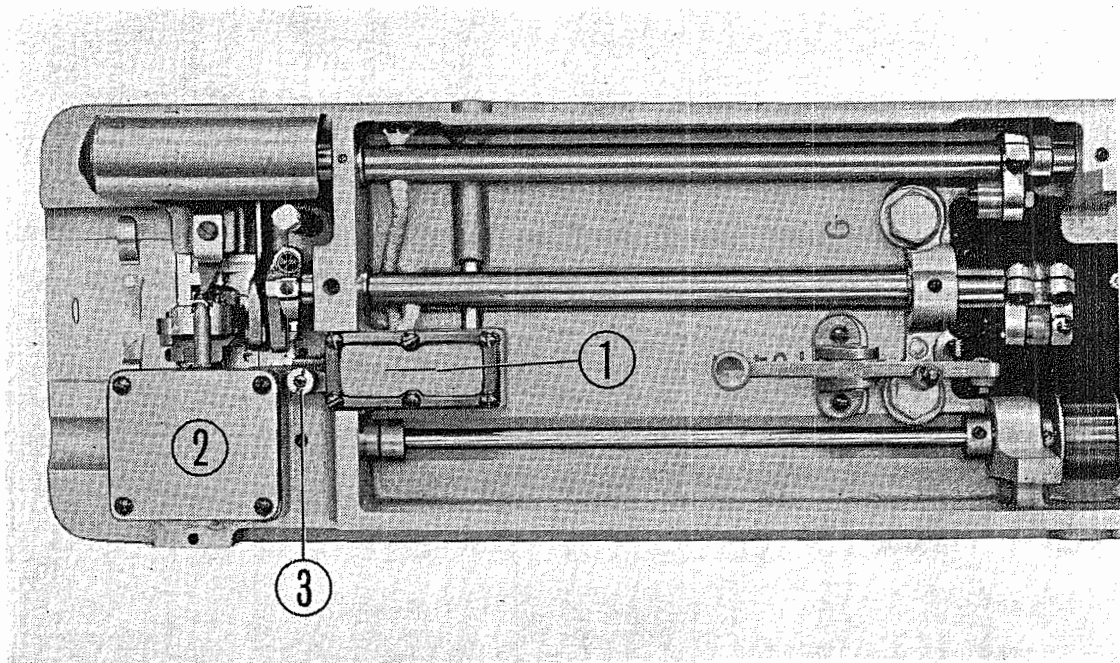

Fig. 1
Before operating the machine, fill up the hook reservoir (Fig 1 ①) and the hook shaft bevel gear reservoir (Fig 1 ②) with oil, fully. Also, inspect all oil reservoirs of various parts every 2-3 days and when they fall below the red mark, fill them up again. The oil reservoir should be filled up to the mark "HIGH".
The oiling to the sewing hook parts can be adjusted by the oil adjusting valve (Fig. 1 ③) If the adjusting valve is turned to right, the oiling amount becomes less and if turned to left, it becomes more. It